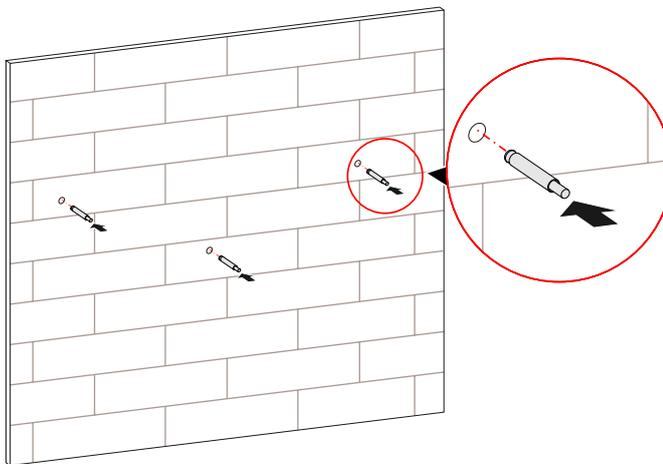

Figure3-11 Install expansion bolts
Step 3 Install the equipped three expansion bolts M6\*60 into the holes, as shown in Figure3-11.